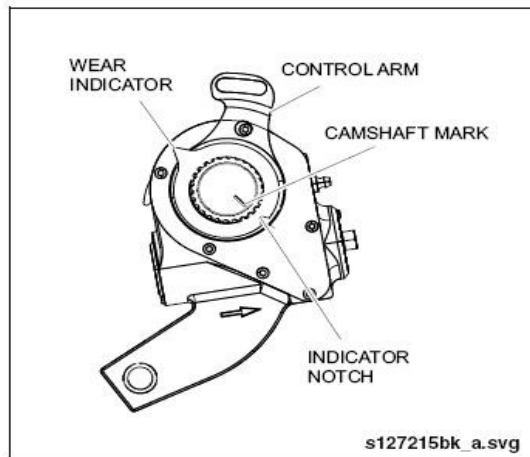

Fig. 2-104: Slack Adjuster Index Markings
6. Confirm that the notch in the wear indicator aligns with the marking on the end of the camshaft. See "Fig. 2-104: Slack Adjuster Index Markings" on page 99.